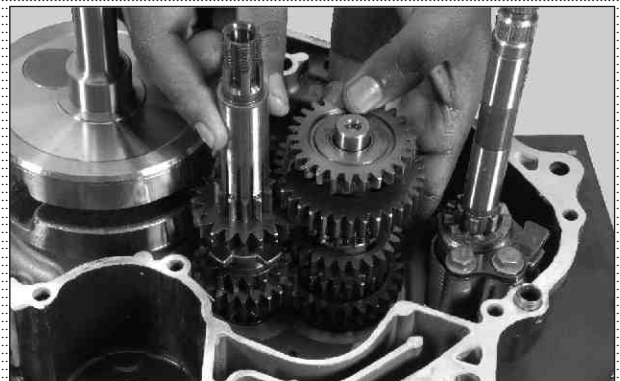

Fig. 3.101
- Take out shaft complete drive and shaft complete counter along with the gears as an assembly. (Fig. 3.101)